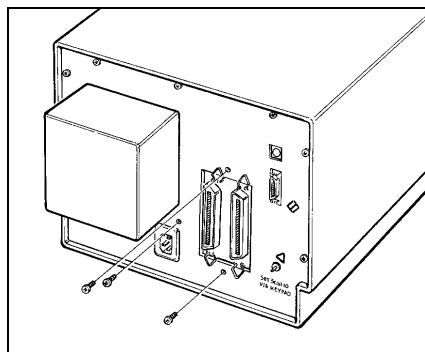

Figure 5-23. Installing the rear cover screws
15. Install the rear cover securing screw above the power connector (Figure 5-23).
- c. Install the rear cover securing screw above the power connector (Figure 5-23 on page 126).